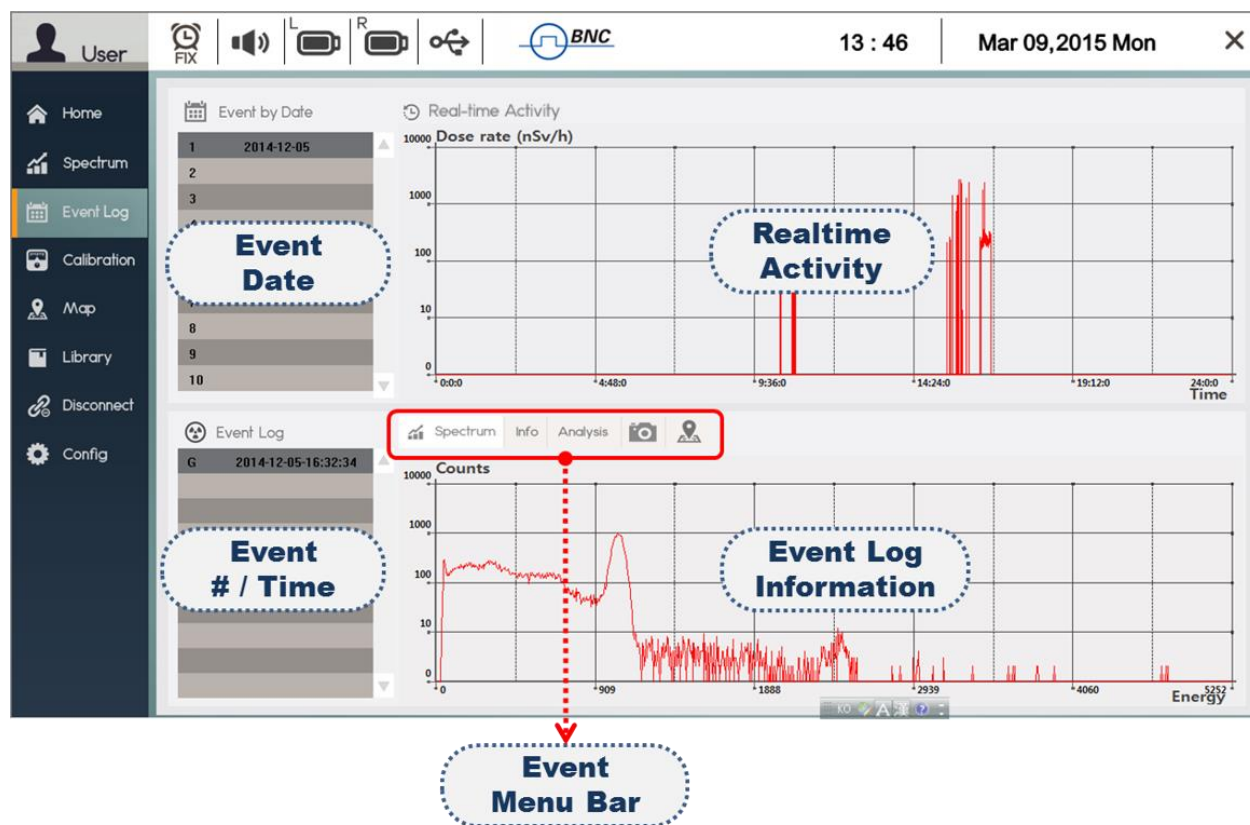

Figure 4.13. Event Log Screen Description
Figure 4.13 shows the Event Log screen. Events are grouped in the database (DB) by date. To retrieve a saved event, first select from Event by Date. Next, select the event by number or by time stamp from the Event Log list as shown in figure 4.13.
++Each event contains a spectrum, general information, analysis results, photos/videos, and map information. The information is accessed by selecting the corresponding tab on the Event Menu Bar in figure 4.13.